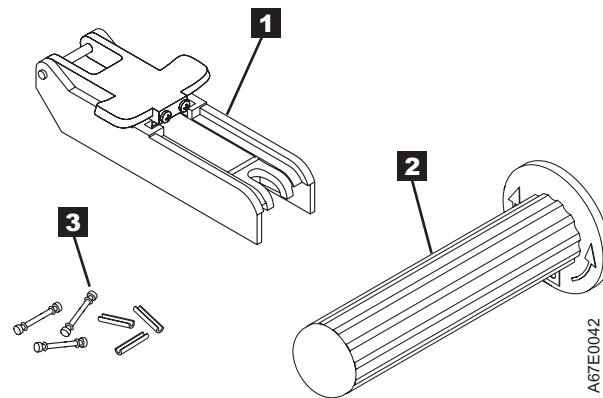

Figure 8-11. Leader Pin Reattachment Kit
- **Leader pin attach tool (1)** in Figure 8-11). A plastic brace that holds the cartridge door open.
- **Cartridge manual rewind tool (2)** in Figure 8-11). A device that fits into the cartridge's hub and lets you wind the tape into and out of the cartridge.
- **Pin supplies (3)** in Figure 8-11). Leader pins and C-clips.